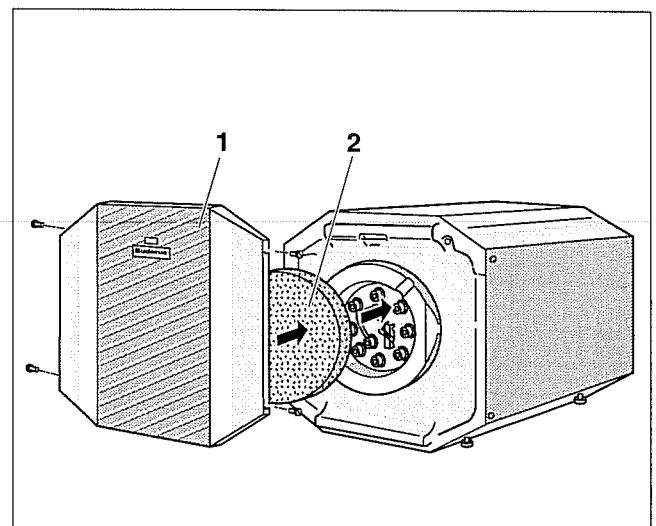

Fig. 14 Installation of insulation and front cover
- Place insulation ring (Fig. 14, **Item. 2**) on clean-out cover.
- Install front cover (Fig. 14, **Item. 1**) and secure with 4 screws.